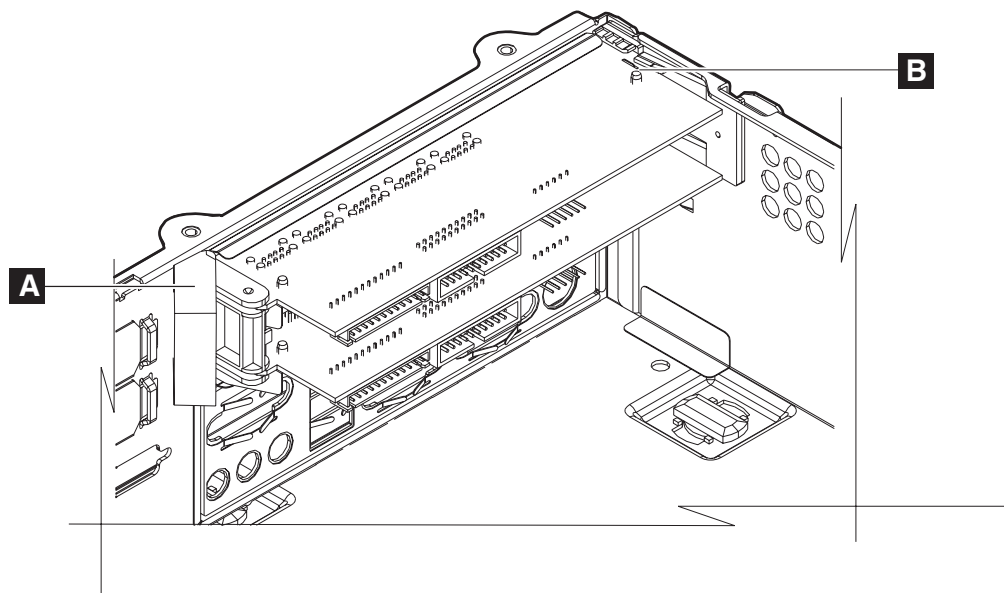

Figure 30. Opened I/O latch
6. See Figure 30. Locate the I/O modules latch, (**A** in Figure 30). Open the latch by grasping and turning it in a clockwise direction.